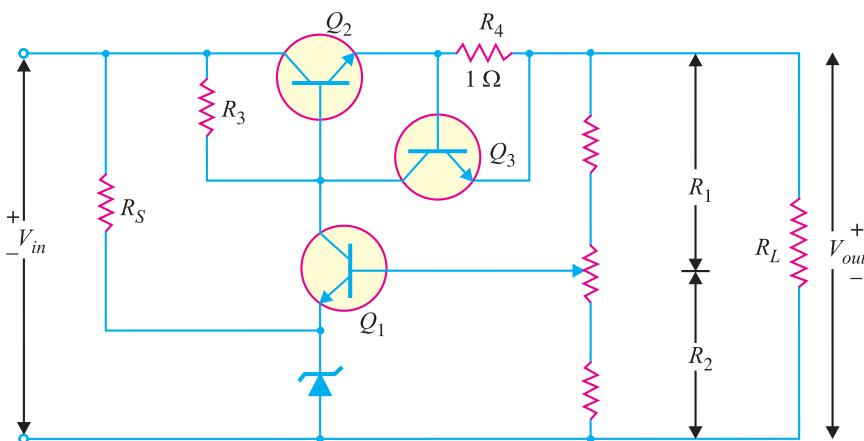

Fig. 17.18
The main drawback of any series regulator is that the pass transistor can be destroyed by excessive load current if the load is accidentally shorted. To avoid such an eventuality, a current limiting circuit is added to a series regulator as shown in Fig. 17.18. A current limiting circuit consists of a transistor ( $Q_3$ ) and a series resistor ( $R_4$ ) that is connected between base and emitter terminals.
**Example 17.16.** In the series feedback voltage regulator shown in Fig. 17.18,  $R_1 = 2\text{ k}\Omega$ ,  $R_2 = 1\text{ k}\Omega$ ,  $V_Z = 6\text{ V}$  and  $V_{BE} = 0.7\text{ V}$ . What is the regulated output voltage?
**Example 17.17.** In the series feedback regulator circuit shown in Fig. 17.18,  $R_1 = 30\text{ k}\Omega$  and  $R_2 = 10\text{ k}\Omega$ . What is the closed loop voltage gain?